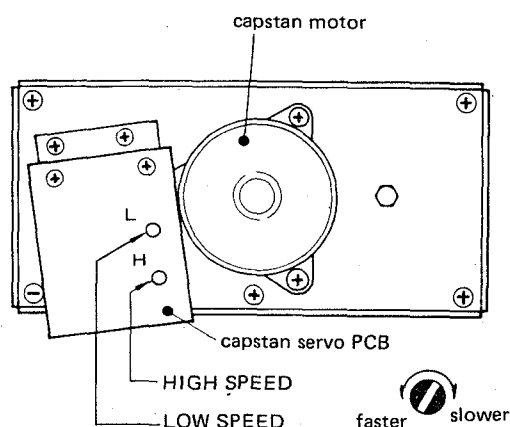

Fig. 2-22
3. Play the tape. Adjust HIGH SPEED control (see Fig. 2-22) for a reading of $3,000\text{Hz} \pm 5\text{Hz}$.